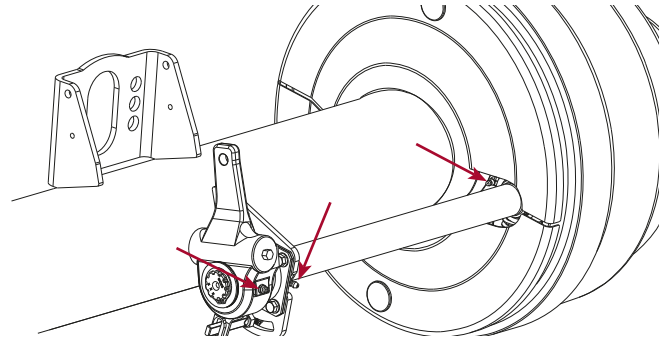

Figure 89: Grease Points
13. Lubricate the spider S-cam bush, the S-cam support bush assembly and the slack adjuster (refer Figure 89) with EP NLGI #2 grease as follows: